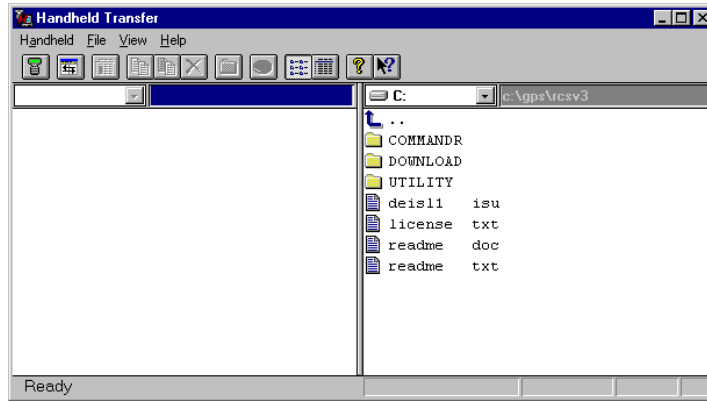

Figure 5.2: Handheld Transfer Main Window
1. Double-click the **Handheld Transfer** icon on the PC. The Handheld Transfer main window opens (Figure 5.2).